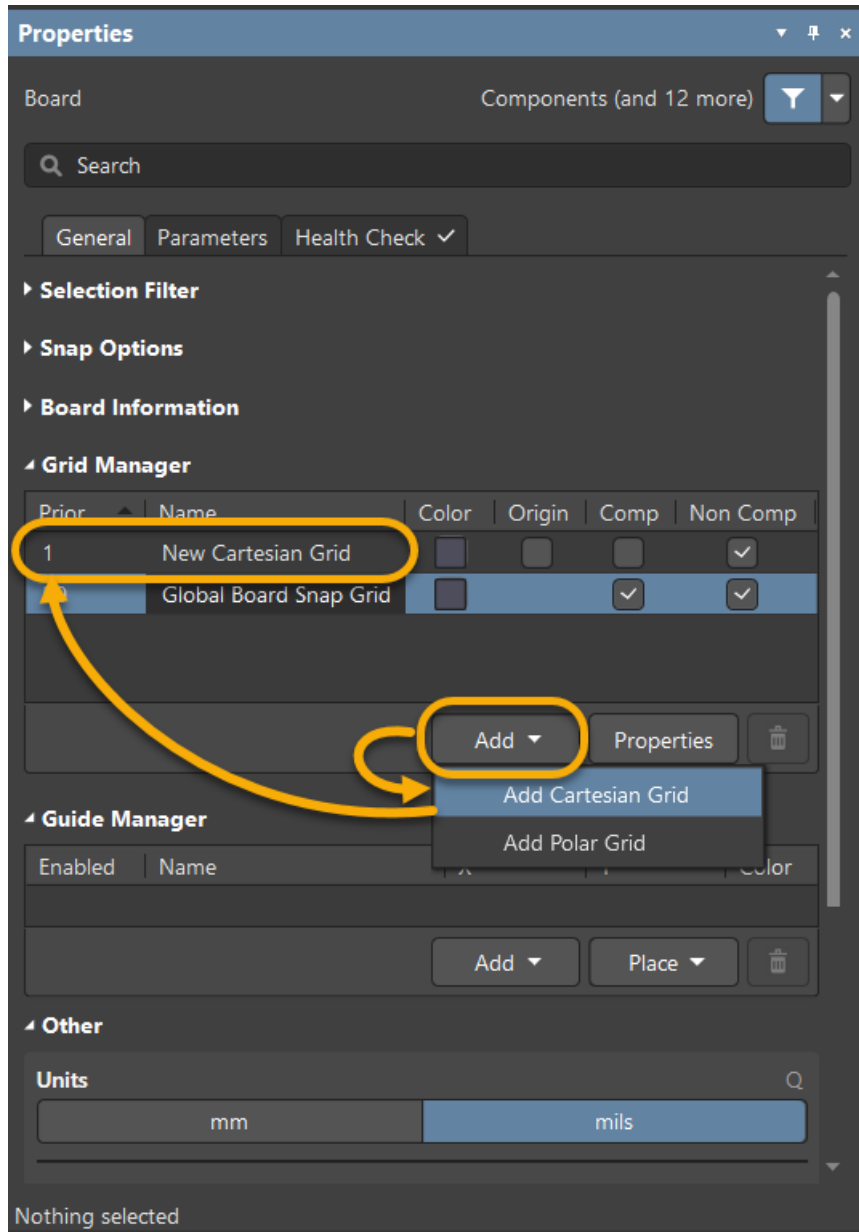

Figure 5. New grid added in the Grid Manager
21. A grid named *New Cartesian Grid* will be added to the list in the *Grid Manager*, as shown in Figure 5 below.